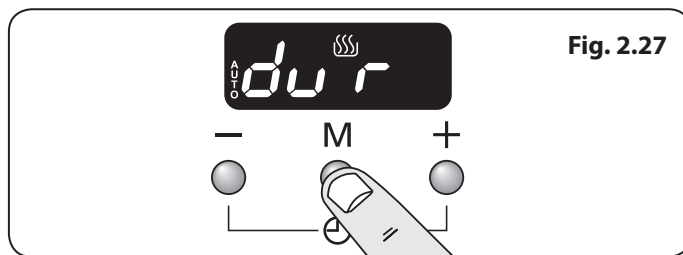

Fig. 2.27
1. Press the mode [M] button until the display flashes (dur) (**Fig. 2.27**). Then set the 'cook period' using the [+] or [-] buttons.